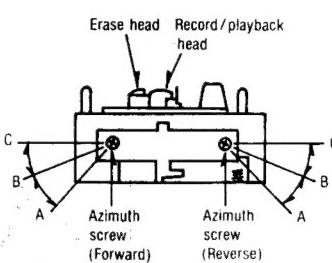

Fig. 3
The serial number plate of this product is attached to the back chassis (shown in fig. 3).
2. In the forward playback mode, playback the 8kHz signal from the test tape (QZZCFM). Adjust the azimuth screw (Forward) shown in fig. 3 for maximum output L-CH and R-CH levels.
3. Turn the azimuth screw (Forward) shown in fig. 3 to find angles A and C (points where peak output levels for left and right channels are obtained). Then, locate angle B between angles A and C, i.e., point where L-CH and R-CH outputs are balanced. (Refer to figs. 3 and 4.)
6. In the forward playback mode, playback the 8kHz signal from the test tape (QZZCFM). Adjust the azimuth screw (Forward) shown in fig. 3 so that pointers of the two EVMs swing to maximum and a lissajous waveform as illustrated in fig. 6 is obtained on the oscilloscope.